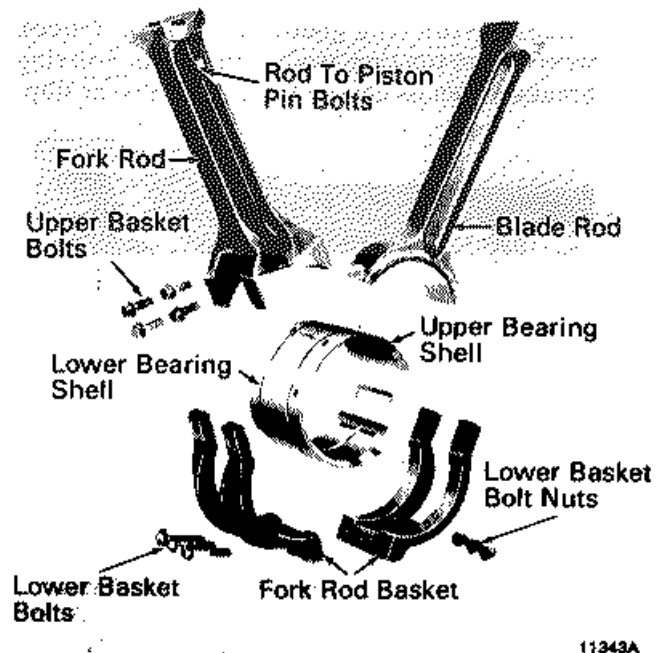

Fig. 3-12-Connecting Rods, Bearing Shells, And Basket
The "trunnion type" connecting rods, Fig. 3-12, are interlocking, blade and fork construction. The blade rod moves back and forth on the back of the upper crankpin bearing and is held in place by a counterbore in the fork rod.
rod at the bottom match similar serrations on the fork rod basket, Fig. 3-12. The rod basket consists of two halves, held together at the bottom by three bolts and self-locking nuts. The fork rod and basket are bolted together at the serrations. Fork rods and baskets are not interchangeable since they are line bored as an assembly. Both the fork rod and basket are stamped with an identical assembly serial number for matching and identification purposes.
4. Check fork rod bore by fastening basket securely in place using 238 N•m (175 ft-lbs) torque on upper basket bolts, Fig. 3-12. (Normal upper basket bolt torque is 258 N•m [190 ft-lbs] on assembly.) Torque lower basket (split line) bolts to specified value. Check to be certain inner counterbores in rod and baskets are in alignment. If not, loosen basket to rod bolts and use a brass hammer to tap baskets into alignment, then retorque bolts. Measure bore at points 600 apart as indicated in Fig. 3-14. Take one set of measurements at generator end of bore and one set at accessory end of bore. The average of each set of dimensions must not exceed the specified maximum. If bore is beyond this dimension, the rod and basket should be reworked.
Connecting rod bearings consist of upper and lower shells, Fig. 3-12. They are semicircular in shape and have a steel back with a layer of lead bronze bearing